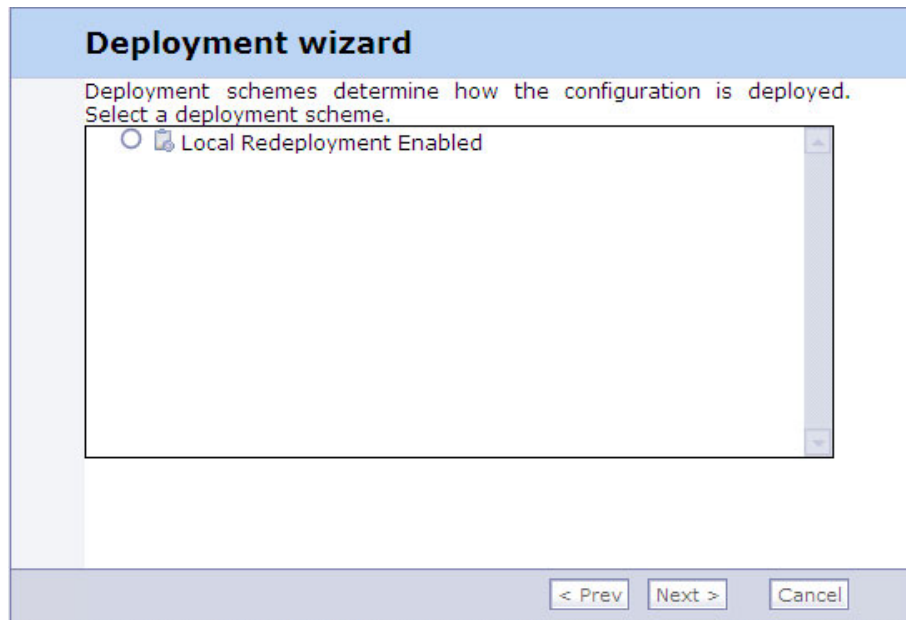

Figure 4-4 Selecting the new deployment scheme for redeployment
2. Go through the deployment wizard, but make sure to select **Redeployment preload** and not **Simple deployment**. This enables the option to use the deployment scheme we just created (Figure 4-4).